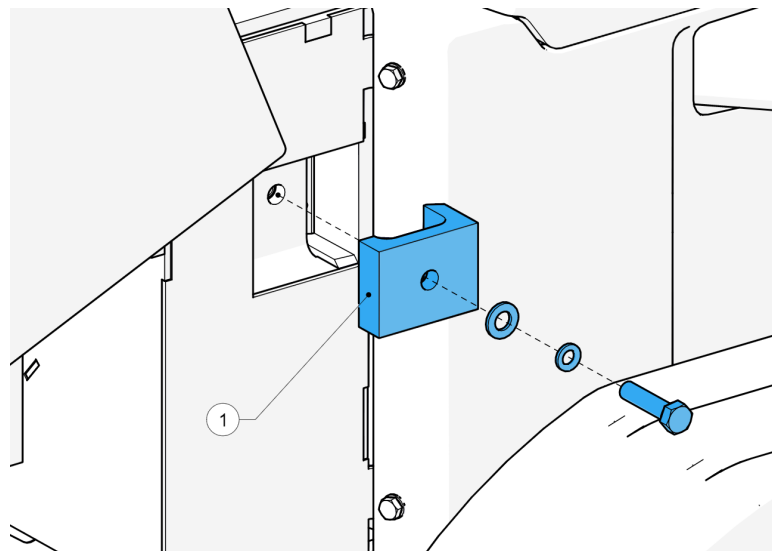

Figure 58 - Anvil clamp position
4. Locate the anvil clamp (1, Figure 58).